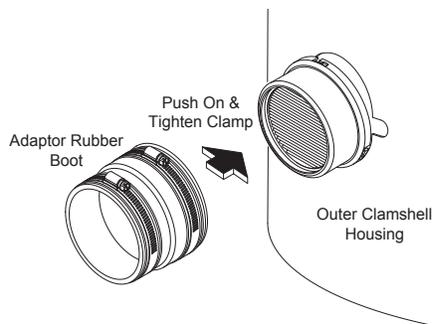

Figure 15. Adapter Rubber Boot
- To connect heater to the air inlet, use the vent adaptor rubber boot provided in the base skirt. The adaptor rubber boot is designed for 3" venting (**Figure 15**).
- Loosen the hose clamp at the adaptor rubber boot and slide the plastic piping into the adaptor rubber boot. With piping in place, tighten the hose clamp. Install a 3" x 3" x 2" drain/waste/vent fitting to trap airborne particulates. See **Figure 15**.